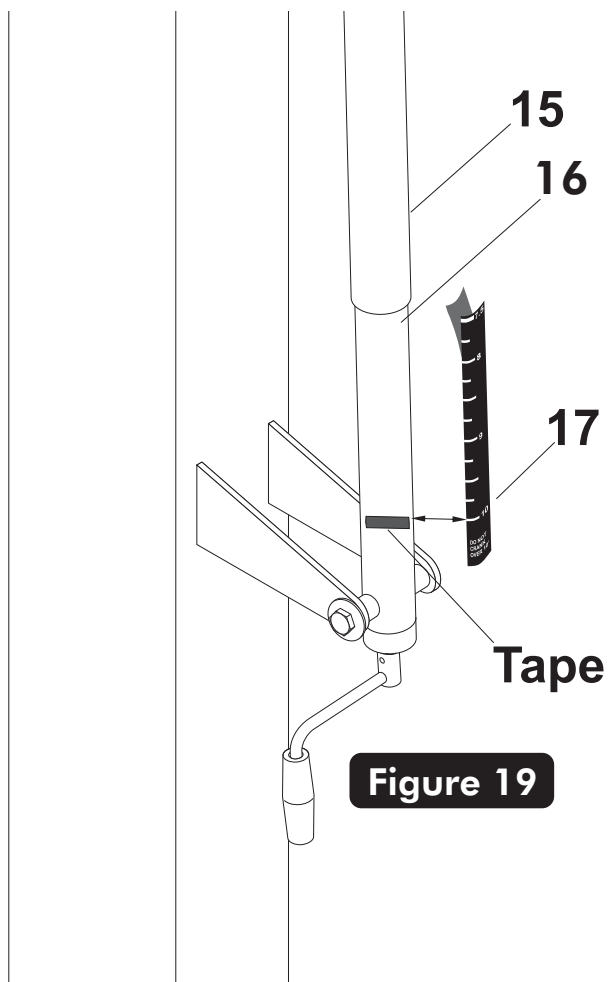

Figure 19
40. Remove the adhesive backing from the Height Decal (#17). Next, carefully align and stick decal to backside of steel actuator (#16) starting at the **10 ft mark first**. Be sure to keep the height decal straight and rub out all air bubbles. See **Figure 19**.